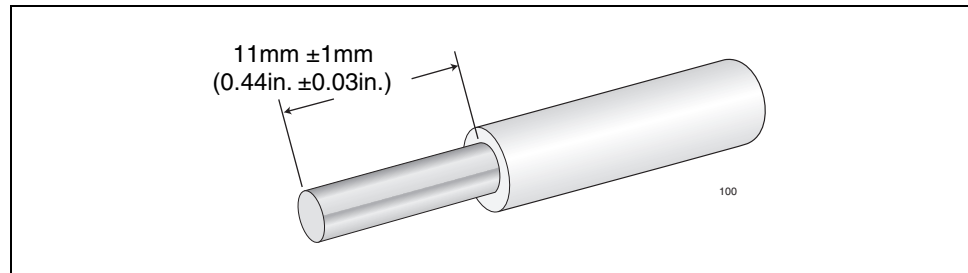

Figure 10. Stripping the Grounding Wire
1. Strip the grounding wire as shown in Figure 10.